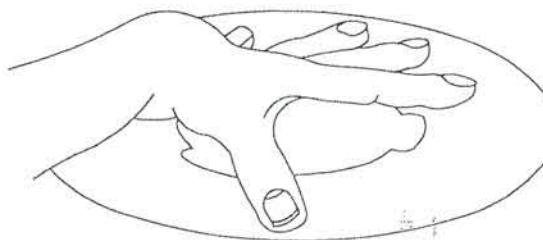

Fig.2
1. Seed discs must always be fitted concave towards the unit air gallery block even if they appear to function either way round. (Fig.2). If in doubt the discs can be checked by laying them on a flat surface and pressing them firmly down. (Fig.3). The outside edge of the disc should contact the flat surface all the way round indicating the way the disc should be fitted into the unit. If it does not, turn the disc over and try again.